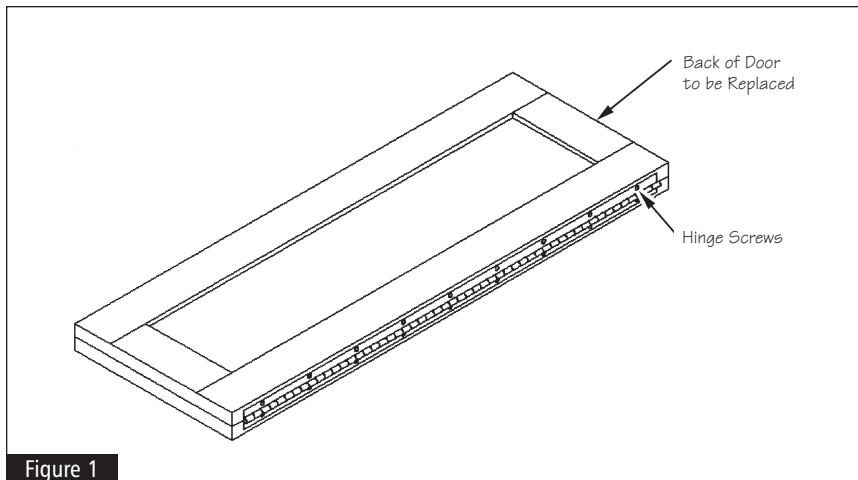

Figure 1
- 1** Remove the Easy Reach door assembly from the cabinet, remove decorative hardware if necessary. Place door assembly onto a smooth surface with doors folded face-to-face as shown in Figure 1.